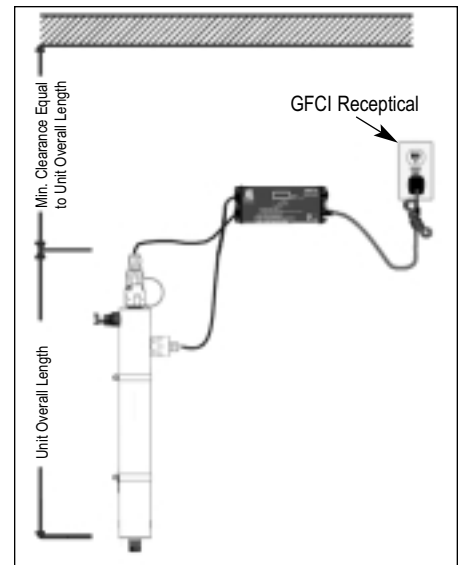

Figure 1A
2. Select a suitable location for the disinfection system and its related components. As it is recommended to install a ground fault protected circuit (GFCI), make sure that this is taken into consideration prior to any installation. The system can either be installed vertically (inlet port at the bottom) (Figure 1A), or horizontally (Figure 1B), however the vertical installation is the most preferred method. When selecting a mounting location, you must also leave enough space to allow for the removal of the UV lamp and/or quartz sleeve (typically leave a space equal to the size of the reactor chamber itself).